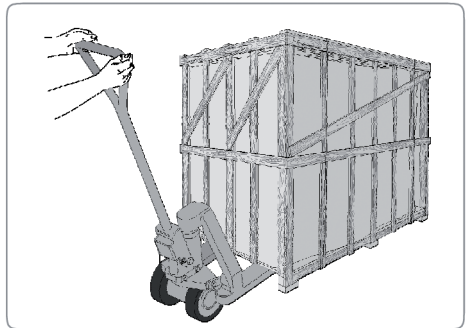
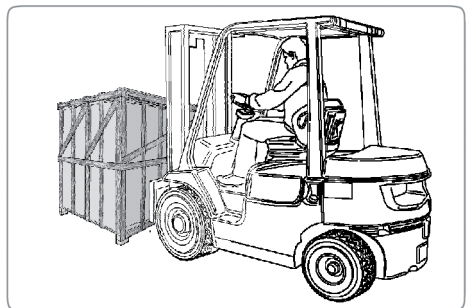
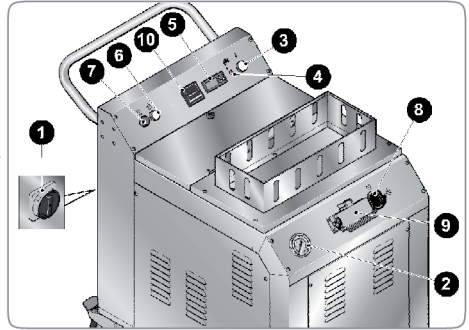
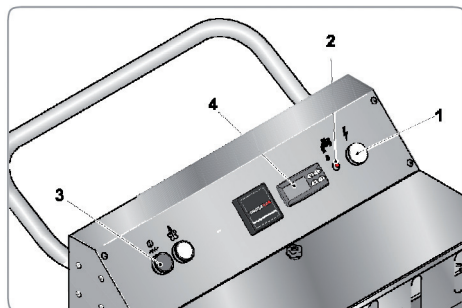

Fig. 3
Fig. 4
Fig. 6
Fig. 8
Insert the forks of the transpallet (Fig. 3) or forklift truck (Fig. 4) beneath the crate. Make sure they are positioned correctly with respect to the centre of gravity.
CONTROLS AND MAIN PARTS (Fig. 6)
The signal lamp (1-Fig.8) on the control panel indicates correct machine feeding. Turn on the general switch for pump/heater feeding (3 Fig.8): the temperature display (4 Fig.8) will blink for about 4-5 seconds and will then stabilize in indicating the internal boiler temperature. Low water level in the tank is indicated by the no-water signal lamp (2) and an acoustic signal. The signal lamp (2 Fig. 8) will turn on for about 2 seconds and then will turn off.
The machine is ready to deliver steam when a temperature of around 180°C is shown on the display (4, Fig. 8) and a pressure of about 10 bar is shown on the gauge (2, Fig. 6). When the water level in the tank is low, the warning light (2, Fig. 4) will start to flash and an acoustic signal will sound.
Wenn der Minimalwasserstand überschritten ist, erlischt die Signalleuchte und das Akustiksignal schaltet ab (4, Fig. 6).
Während der Befüllung des Kessels mit Wasser leuchtet die Signalleuchte (4, Fig. 6) auf, es ertönt kein akustisches Signal.
- With the tank full and the boiler empty, after feeding the generator through the switches (see the "PREPARATION" paragraph), the system controls the water filling pump until the correct level is reached in the boiler. In this phase the heating element is deactivated, while the signal lamp (4 fig.6) is on without blinking and without an acoustic signal; this indicates the filling procedure in process.
- Once filling is completed, the pump is turned off, and heating is simultaneously enabled through the boiler heater; the signal lamp is turned off (4 fig.6).
During normal level refilling, the heating element remains enabled for heating and the signal lamp (4 fig. 6) is on without blinking and without acoustic signal.
- If during filling the level probe located in the tank should remain exposed, the system immediately stops refilling operations and the signal lamp (4 fig. 6) starts blinking together with an intermittent acoustic signal.
- Each time the tank level probe senses a low water level, the system immediately stops refilling operations and the signal lamp (4 fig.6) starts blinking together with an intermittent acoustic signal.
With the 4 buttons located on the thermoregulator (5 fig. 6) proceed as follows: